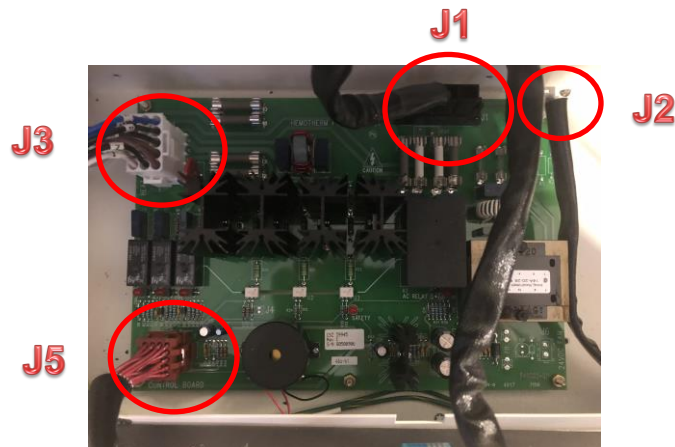

Figure 13
14. Plug in each of the cables into the new Power Board at J1, J2, and J3 as shown in *Figure 13*.
16. Plug in the cables into the new Power Board at J5 as shown in *Figure 13*